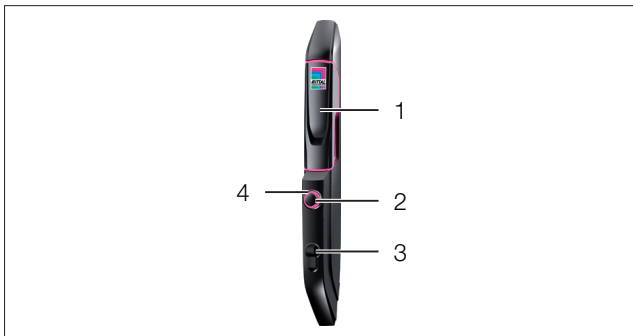

Fig. 25: Front of the comfort handle
A multi-LED for the status display is integrated at the front of the comfort handle (fig. 25, item 4). "Access" mode is activated as standard for the multi-LED.